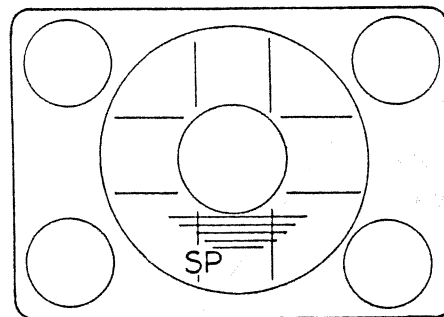

Fig. 4-103
1) Display Position Adjustment (Figs. 4-103, 4-151)
3. Adjust CT801 so that remaining tape speed (SP) is positioned on the monitor screen as shown in Fig 4-103.